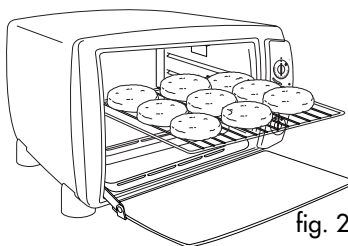
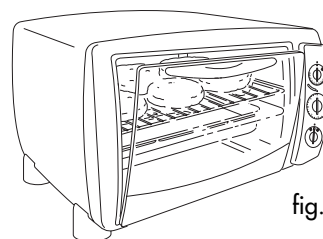

fig. 2
fig. 3
Once the preheating time is complete, place the food being grilled directly on the wire rack (Figure 2) and close the door, leaving it ajar, as shown in Figure 3; remember to turn the food half way through cooking.
**Important:** for best results, place the food on the wire rack (O), leaving an empty space of around 2cm near the door (see Figure 2).